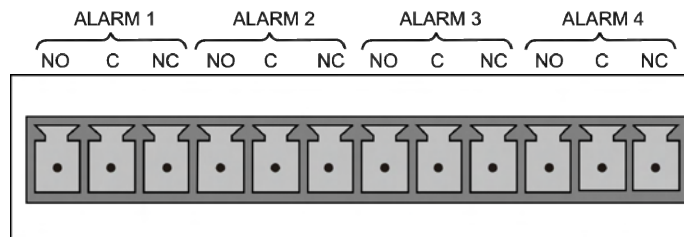

Figure 5-2: Concentration Alarm Relay
The Teledyne API T-Series analyzers have an option for four (4) “dry contact” relays on the rear panel of the instrument. This relay option is different from and in addition to the “Contact Closures” that come standard on all TAPI instruments. The relays have three pins that have connections on the rear panel (refer Figure 5-2). They are a Common (C), a Normally Open (NO), and a Normally Closed (NC) pin.